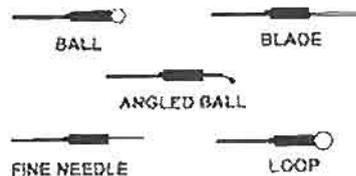

Figure 1-14. Surgical electrodes.
l. Surgical electrodes (fig 1-14). Five reusable electrodes are provided with the ES apparatus for application as required in support of combat casualty care.